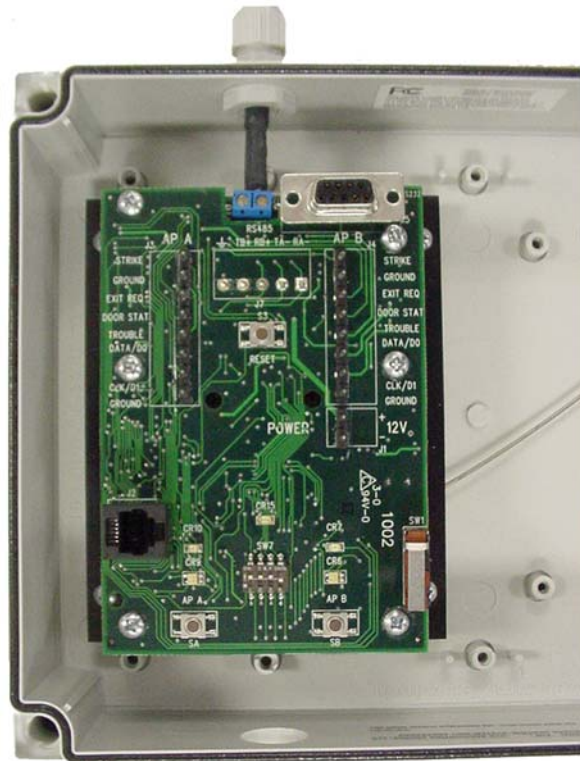

Figure 5-11 – Installing the RAM Coax in the PIM
5.7.5 Remove the nut and washer (if provided) from the NEMA gland (Figure 5-11). Discard the washer.
5.7.6 Install the NEMA gland in the hole drilled in step 5.7.3. Tighten the gland by turning the nut inside the enclosure. Do not tighten the gland by turning the gland while holding the nut. There is an “O” ring on the gland that will not seat properly if the gland is rotated (Figure 5-11).